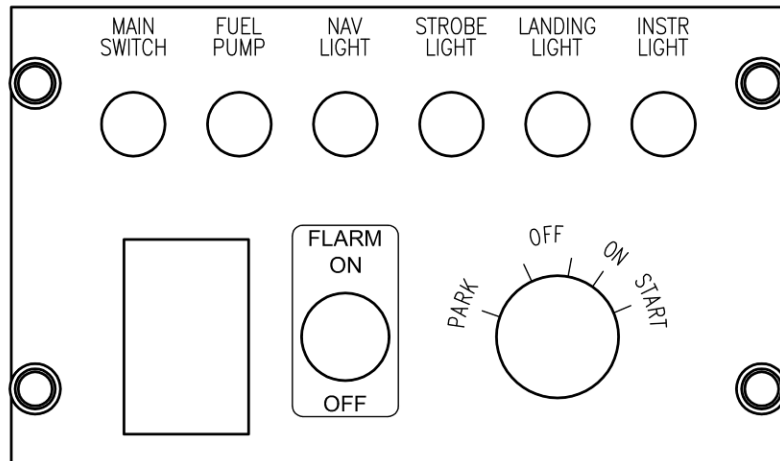

Figure 2 Switch Panel with new drilled hole and placard "FLARM ON OFF"
- 1.8.11 Install all toggle switches together with insulation angle 109B-7000.32. Install the ignition switch and mute switch into the switch plate, refer to Figure 2.